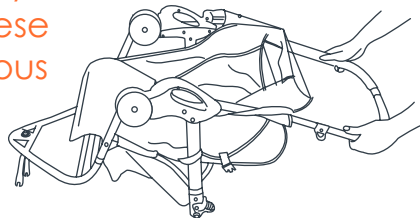

Fig. 1
- 1)** • Lean the stroller backwards so that it rests on the handle and rear axle frame and the front wheel forks are pointing upward (Fig 1).